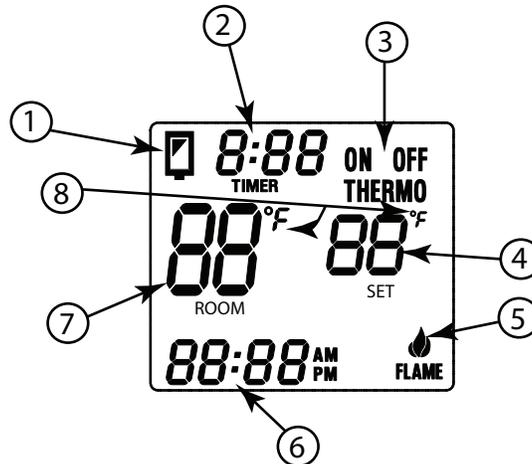

Fig. 2 LCD Display Functions
The transmitter operates on (2) AAA size 1.5V batteries. It is recommended that **ALKALINE** batteries always be used for longer battery life and maximum operational performance. **IMPORTANT:** New or fully charged batteries are essential for proper operation of the multi-function transmitter. Insert (2) AAA size 1.5V batteries into the battery compartment on the back of the transmitter, positioning the (+) and (-) ends of the batteries as indicated on the casing. When the batteries are inserted, Fig. 2 (with similar numbers) will display.
**Note:** If a LOW battery icon appears on the screen, check the position of the batteries. See Fig. 2.